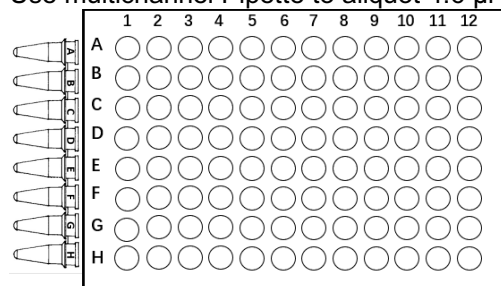

Figure 2. Dispense PHC1 A-H Mix to 96-well plate
- 5) Use multichannel Pipette to aliquot 4.6 µl PHC1-A-H to a 96 well PCR plate (Figure 2)